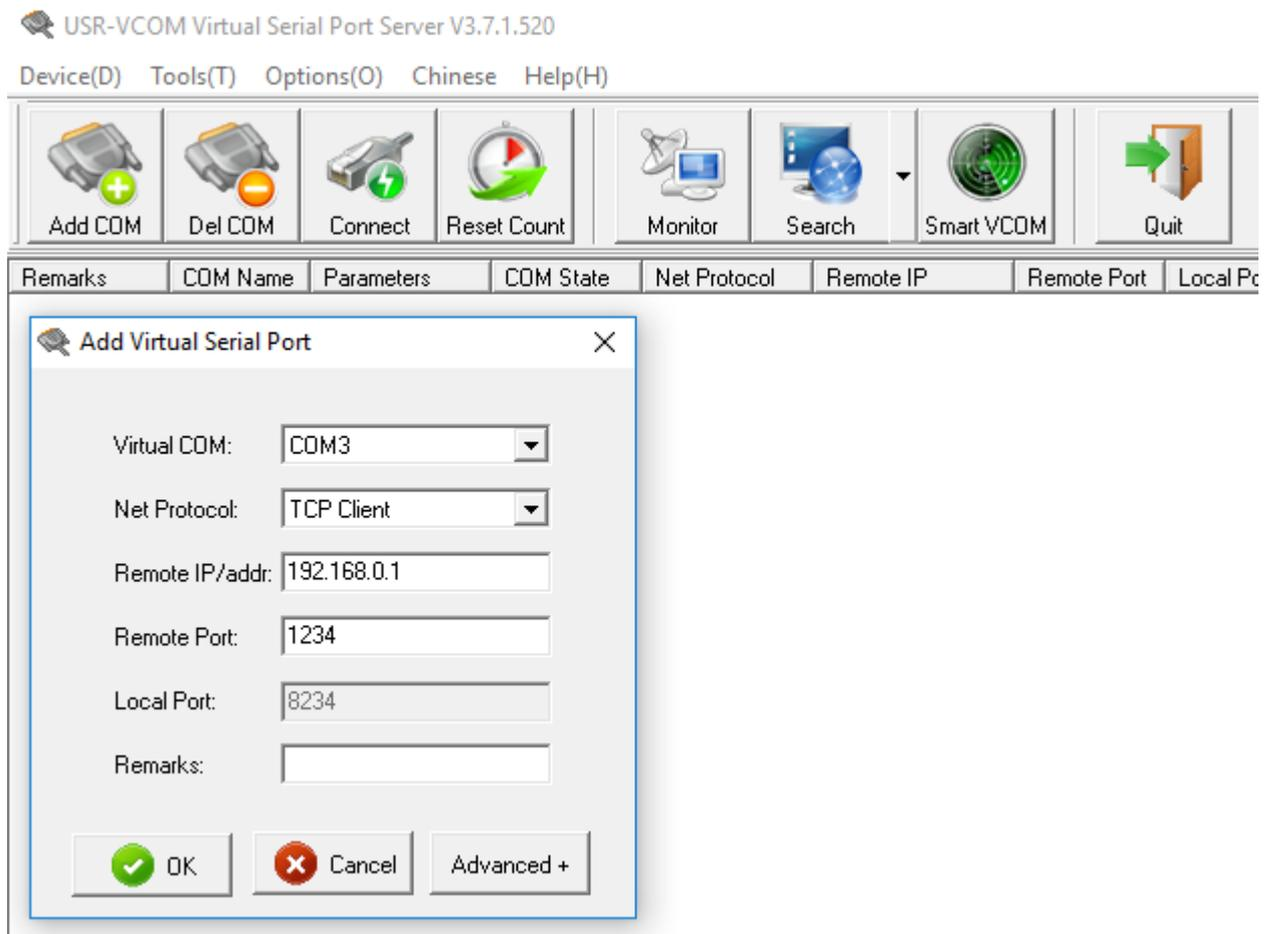

Fig.5 Settings for creating the WiFi - COM port of the bridge.
Connect the PC via WiFi to the SD using the parameters from item 2.2. The planetarium program on the PC uses the COM port connections and does not support WiFi connections. Therefore, you will need to create a software bridge WiFi <-> virtual COM port. To do this, copy the folder: \ Tcp-Com Bridge \ folder from the original CD to any disk on your PC. Then from this folder run the file USR-VCOM.EXE, and register the bridge settings as in the example in Fig 5.